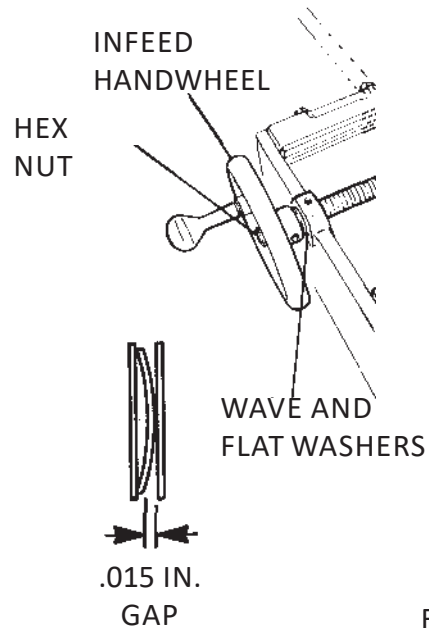

FIG. 21
C. Check for .015 in. [.04mm] gap between the wave washer and the flat washer. See FIG. 21. Readjust the hex lock nut if necessary.